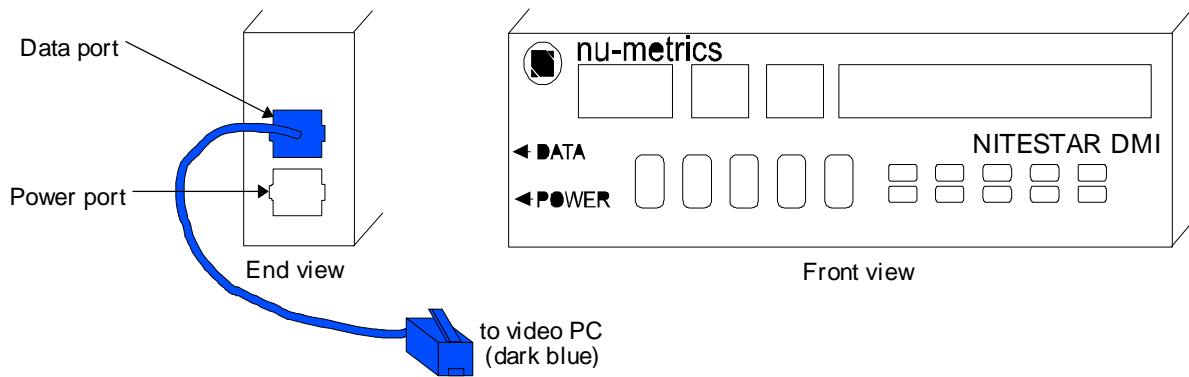

Figure 9
16. Plug the other end of the phone line into the DMI data port (see **Figure 9** [dark blue]).